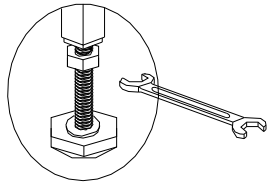

Fig.1
2. Adjust the bathtub levelness (the water at the bottom of the bathtub cannot be drained off completely if the bathtub is not well leveled). Put the bathtub on the installation position; in case of uneven ground, measure with a spirit level (as shown in Fig.6), adjust the bathtub feet to keep the bathtub in a level position, and all feet well contact with the ground, then tighten the foot-adjusting screws (as shown in Fig.1).